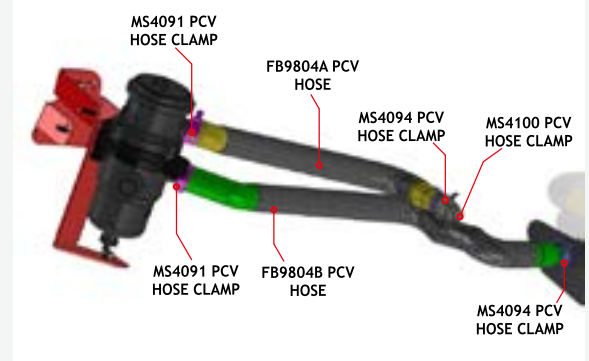

FIGURE 5A
- 3 Starting with the longer supplied MH9804B PCV hose, install the small end on to the Engine PCV Port & tighten with a supplied MS4094 hose clamp as shown in FIG. 5A & 5C.
- 4 Install the other end of the MH9804B PCV hose on to the lower, inlet port, of the RCC351 Catch Can and tighten with an MS4091 hose clamp as shown in FIG. 5A & 5C.